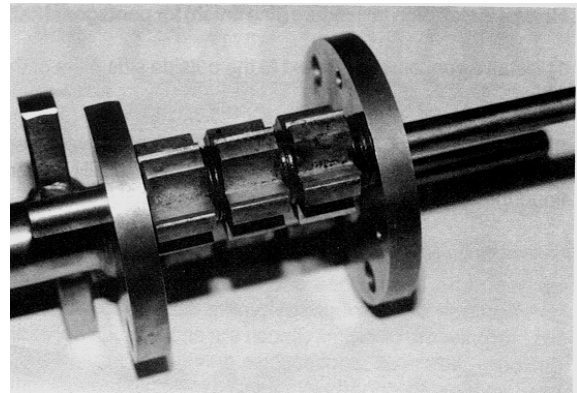

FIGURE 19
1) Install three spacer washers next to the outside side plate of the narrow section. Next, install a flail. Follow with two spacer washers and continue the sequence until the section is full. The tungsten carbide inserts must be installed to form a continuous planing surface. FIGURE 19.